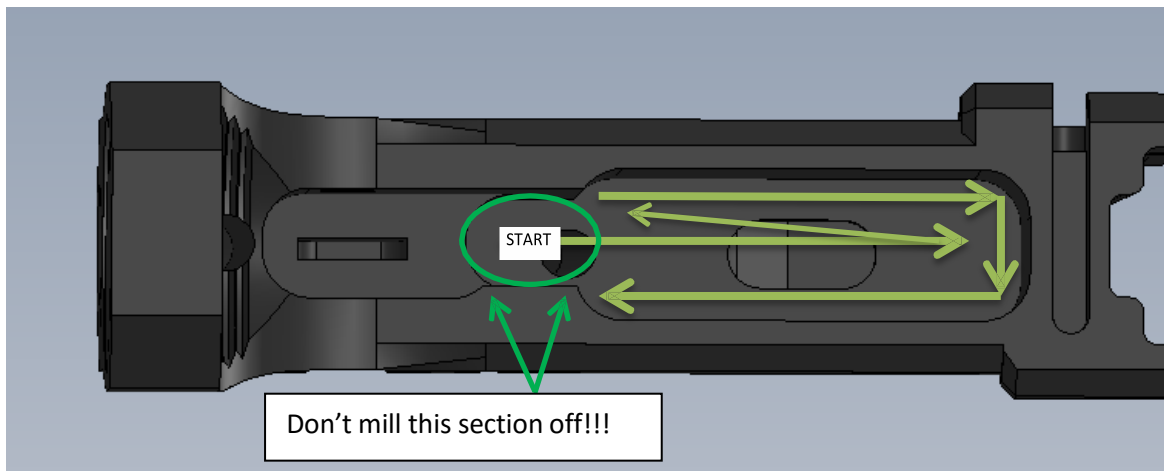

Figure 3
7. Once the fire control pocket and hole #1 are done you can start going straight across into the wider fire control pocket area to clear smooth out the floor and side walls to refine or smooth them out. It's important to start clearing out the hole from debris so you can see what you are doing. A strong light and a shop vac are useful. Figure 3 shows you the technique and pattern you should follow while plunging and milling.
8. Note: Now that we're going to start drilling and cleaning out the main fire control pocket using a milling procedure, it's important to note that the drill bit in a drill press is spinning in a clock-wise direction towards you, from right to left. **ASSUMING YOU ARE USING A CROSS SLIDE VISE** therefore, when moving the jig underneath in the slide vise, follow the path pictured in Figure 3 to prevent the bit from jumping and chattering. You will work against the grain in one sense, rather than allowing the bit to grab and run.
10. **Each time you go through this process, FOLLOW THE PATH IN FIGURE 3.**